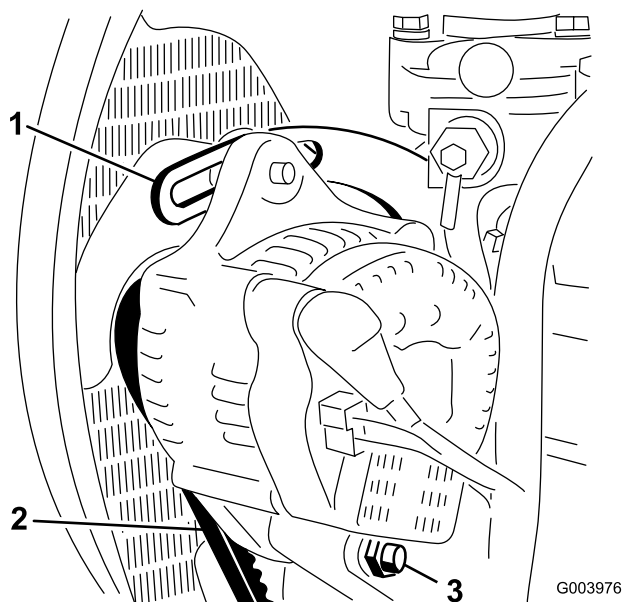

Figure 50
2. Check the tension of the alternator belt by depressing it (Figure 50) midway between the alternator and the crankshaft pulleys with 10 kg (22 lb) of force.
3. Loosen the bolt securing the brace to the engine (Figure 50), the bolt securing the alternator to the brace and the pivot bolt.